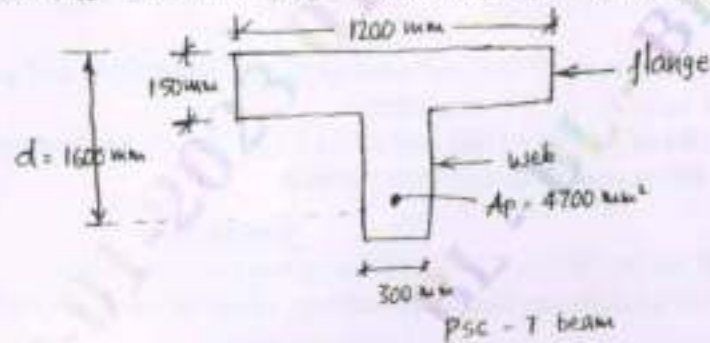

Fig.Q5(b)
- b. Find the ultimate moment of Resistance of T-beam shown in Fig.Q5(b). Area of prestressing steel (A_{ps}) 4700 mm^2 ; $f_{ck} = 40\text{ N/mm}^2$; $f_{pu} = 1600\text{ N/mm}^2$; $d = 1600\text{ mm}$.